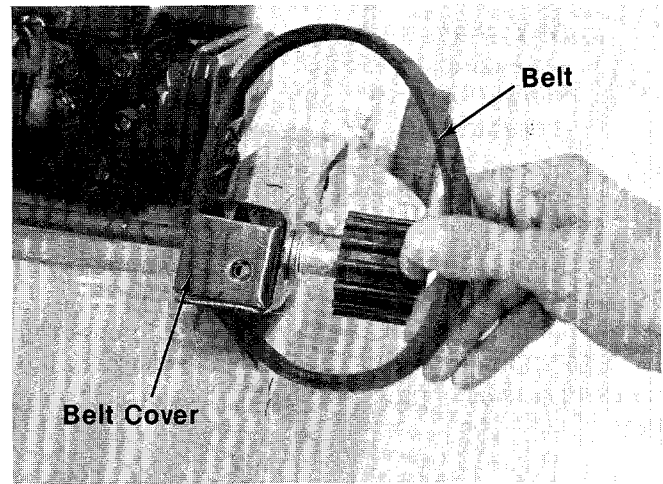

FIGURE 25.
8. Remove the belt from the engine pulley, idler pulley and drive shaft. Slip belt up over belt cover and forward to remove from mower. See figure 25.